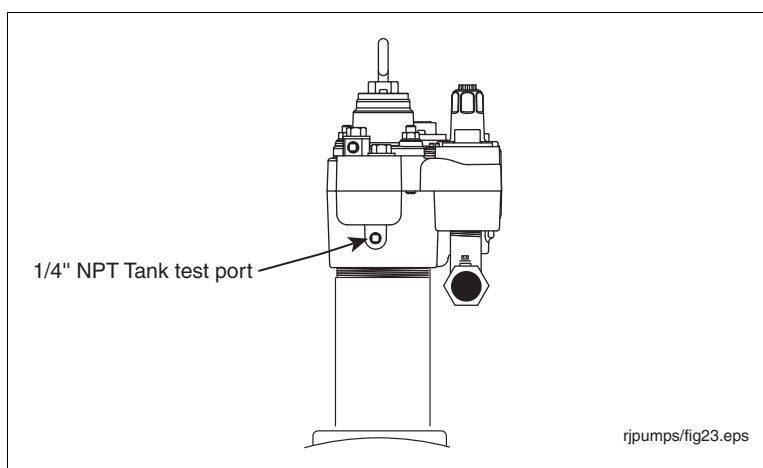

Figure 34. Tank Test Port On Manifold
2. Remove and save the 1/4 " NPT tank test port plug and attach tank testing equipment (see Figure 34).